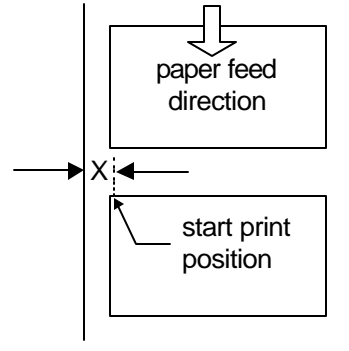

Fig. 3.3.1
1. Choose the expected distance "x" (from the left edge to the start print position). In this case, we suppose the distance is 4 mm (see figure 3.3.1).